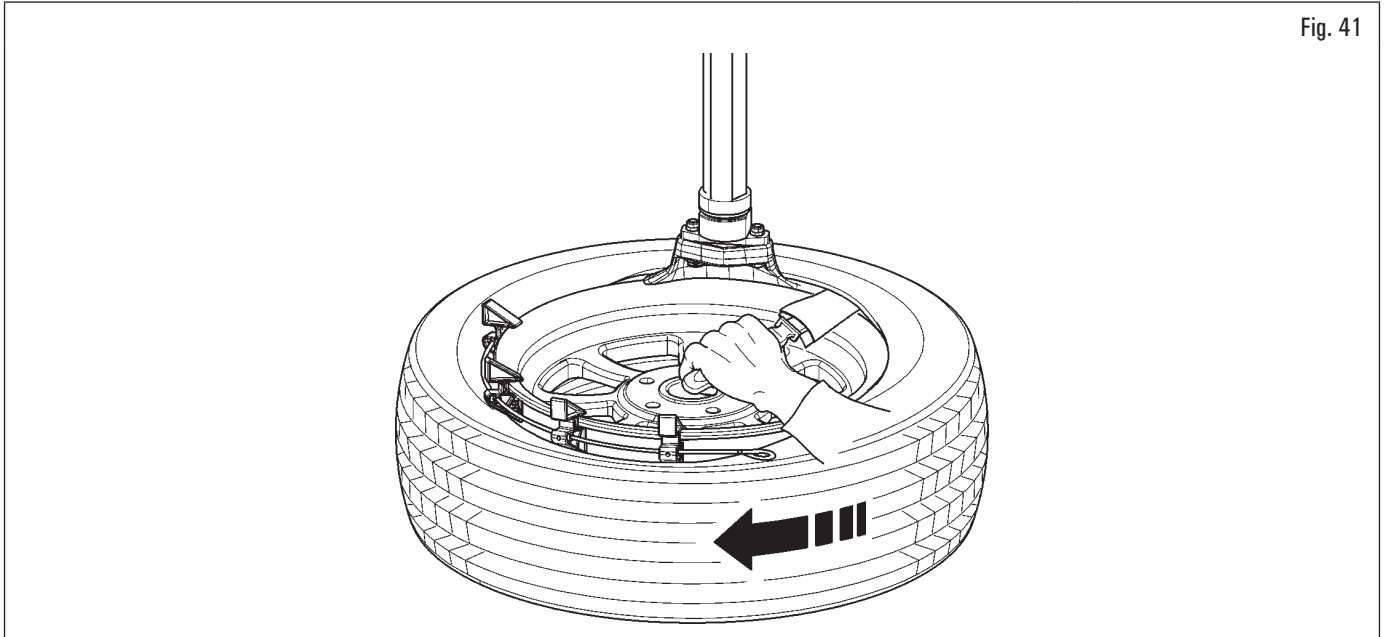

Fig. 41
7. lock the protection shovel with your hand (Fig. 41). Press the rotation pedal remove the first bead of the tyre;